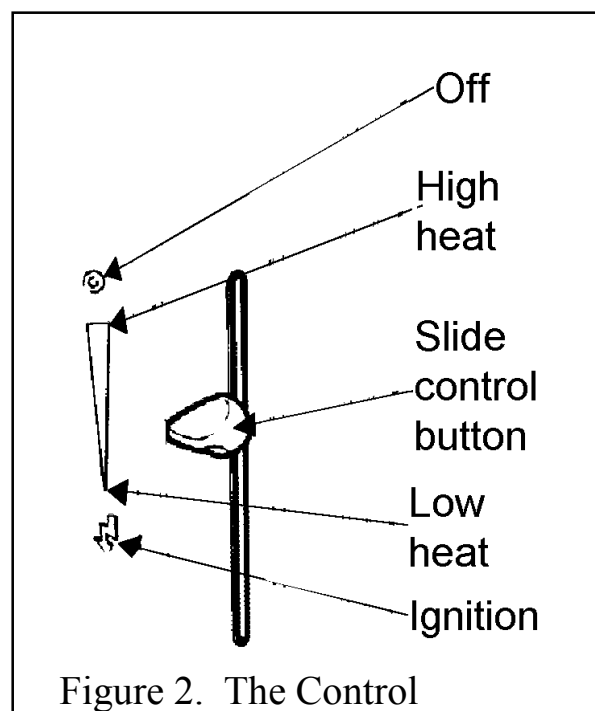

Figure 2. The Control
The slide control is shown in figure 2.
3. If low heat is required, release the button. The button will automatically spring up to the low heat position shown in figure 2 (See note i below).
4. For a higher heat level slide the button upwards. The burner flames and heat output will gradually increase until the button reaches the high heat position shown in figure 2. When the button reaches the high heat position you will feel a check to its movement. **Do not slide the button above the high heat position unless you want to turn the fire off** (See note i below).